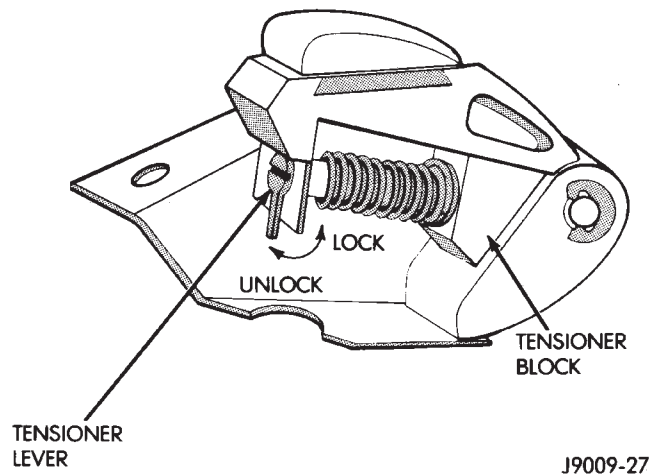

Fig. 43 Loading Timing Chain Tensioner
- (1) Turn the tensioner lever to the unlocked (down) position (Fig. 43).
- (2) Pull the tensioner block toward the tensioner lever to compress the spring. Hold the block and turn the tensioner lever to the lock position (Fig. 43).
- (3) Apply Mopar Silicone Rubber Adhesive Sealant to the keyway in the crankshaft and insert the key. With the key in the crankshaft keyway, install the
- (6) Turn the chain tensioner lever to the unlocked (down) position (Fig. 43).
- (7) Install the oil slinger.
- (8) Replace the oil seal in the timing case cover.
- (9) Install the timing case cover and gasket.
- (10) With the key inserted in the keyway in the crankshaft, install the vibration damper, washer and bolt. Lubricate and tighten the bolt to 108 N·m (80 ft. lbs.) torque.
- (11) Install the fan and shroud.